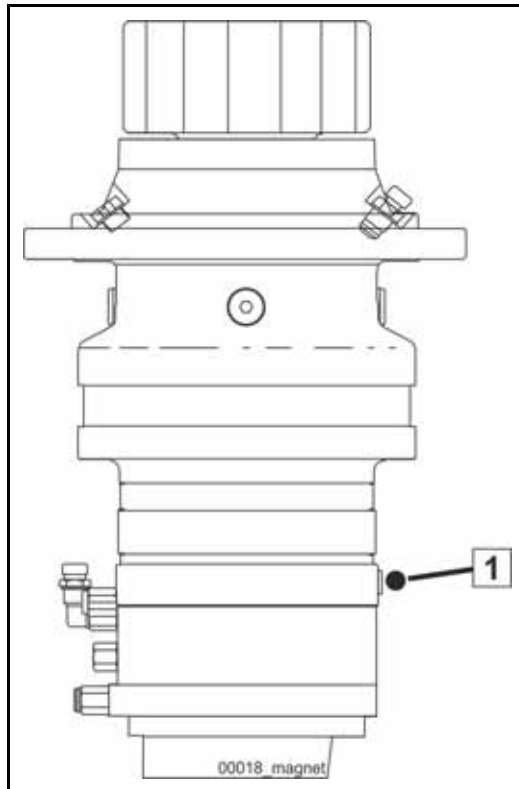

Fig. 299 Magnetic lock
- Check the magnetic locks on the gear for metal residue (1) (**Fig. 299**). In the event of large amounts of metal residue on the magnetic lock, contact Schwing's customer service